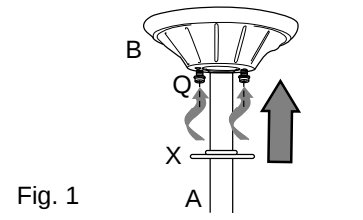

Fig. 1
1. If necessary, partially loosen the two canopy mounting screws (Q), on bottom of mounting bracket (C) that align with holes in canopy (B). Lift canopy (B) to mounting bracket (C). Place rounded part of the holes in canopy (B) over loosened canopy mounting screws (Q) and push canopy (B) up. Twist canopy (B) to lock. Tighten both canopy mounting screws (Q) securely. Slide canopy cover (X) up to canopy (B), aligning rounded parts of slotted holes in canopy cover (X) with screwheads in bottom of canopy (B). Turn canopy cover (X) clockwise until it stops. [Fig. 1]